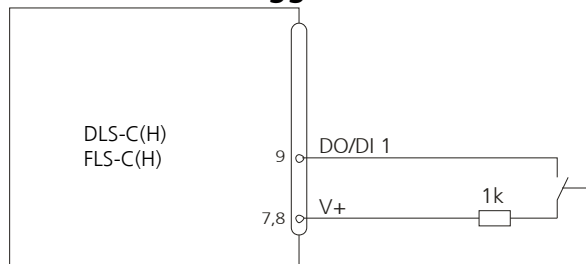

Fig. 19: Connection for external triggering
The DLS-C(H)/FLS-C(H) contains two electrically isolated grounds, the general ground (GND) and the analog ground (AGND). GND and AGND are connected to the housing by a RC element. Please see figure 19.